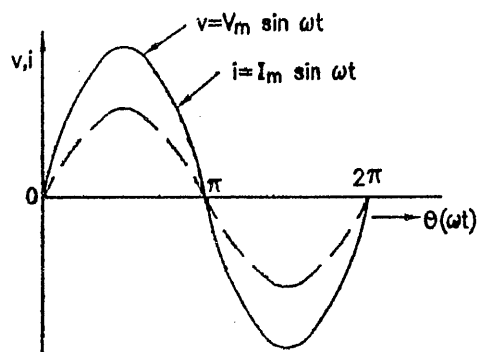
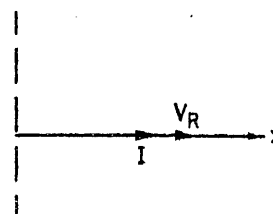

FIG. 2.29 : WAVEFORMS
FIG. 2.30 : PHASOR DIAGRAM
- The graphical and phasor representation of these quantities are shown in Fig. 2.29 and Fig. 2.30 respectively.
- In Fig. 2.30 V_R = Voltage across R (rms)